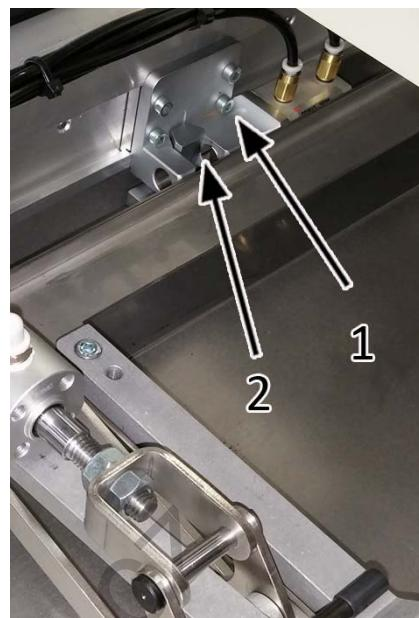

Fig. 49.
Lower feed frame, which is removable, is connected with the X-axis movement mechanism by means of lock (1), see fig. 49. It is necessary to lubricate the locks by spray lubricant with teflon as indicated by arrow (2) approximately once a week.